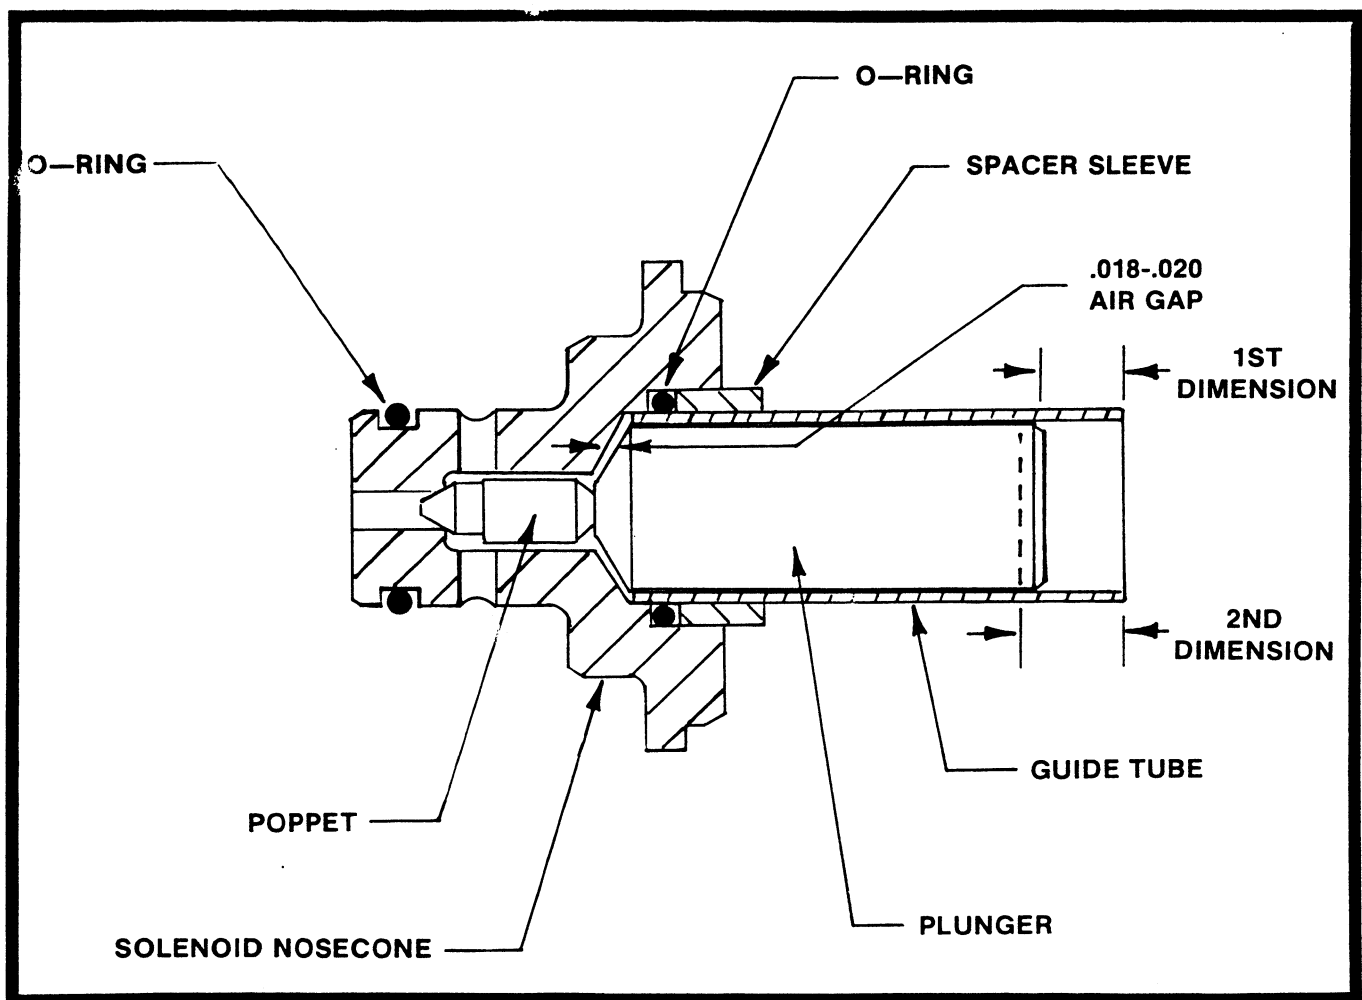

Figure 2-15. Racine Proportional Air Gap Adjustment.
The assembly in Figure 2-15 includes select fit parts in order to maintain a proper air gap. These parts must remain as an assembly or if disassembled, controlled to insure that these component parts are not intermixed with similar parts.
- a. *With all parts assembled as shown in Figure 2-15, use a depth mike or other measuring instrument to determine the distance from the end of the guide tube to the exposed end of the plunger. Record this dimension.